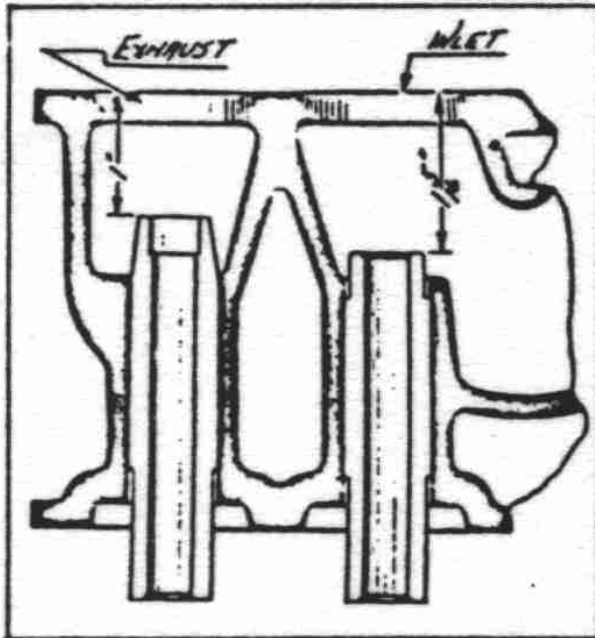

FIG. 21 POSITION OF VALVE GUIDES
(3) The exhaust valve guide is installed in the cylinder block so that there will be a distance of 1" from the top of the guide to the top of the block. The intake valve guide is set at $1\frac{1}{4}$ " from the top of the valve guide to the top of the block, (Fig. 21).
(4) The valve tappet clearance in the guide should be .0005" to .002". It is advisable to check the clearance of the valve tappet by moving it back and forth in the guide. If the clearance seems to be excessive, it might be necessary to install a new valve tappet. This operation is covered in this section under paragraph 29.